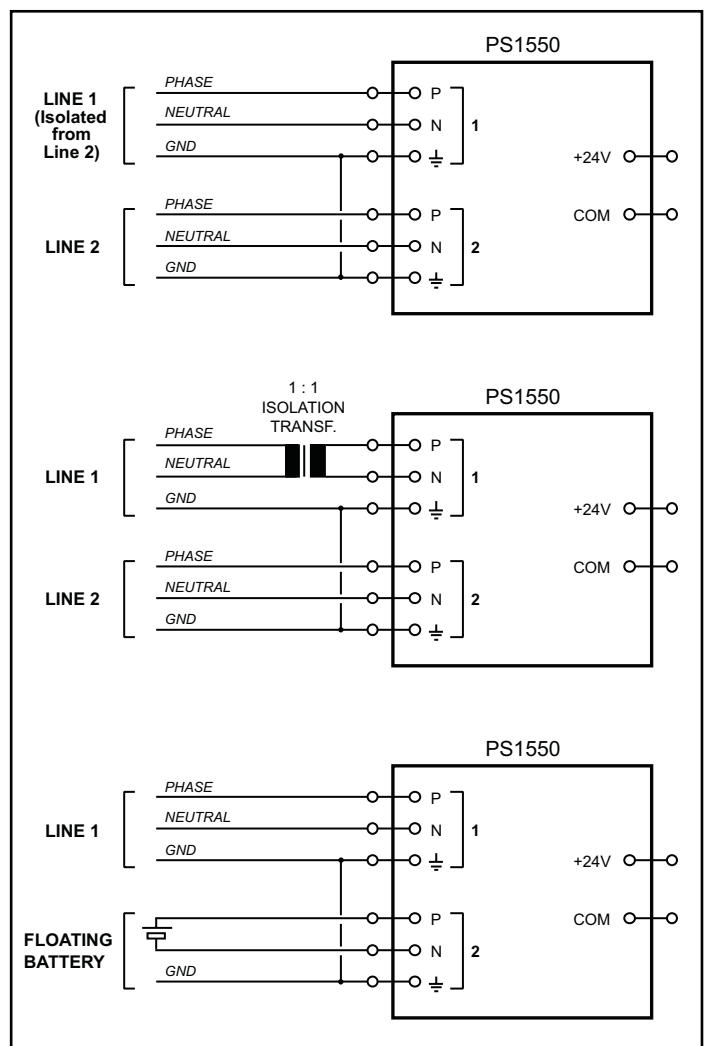

Fig. 9. Inputs connection.
- D. **Important:** when the system is powered by two lines, the lines must be isolated from each other (no common points) or a single phase isolation transformer must be inserted in series suitable for one of the two lines (see fig. 9).